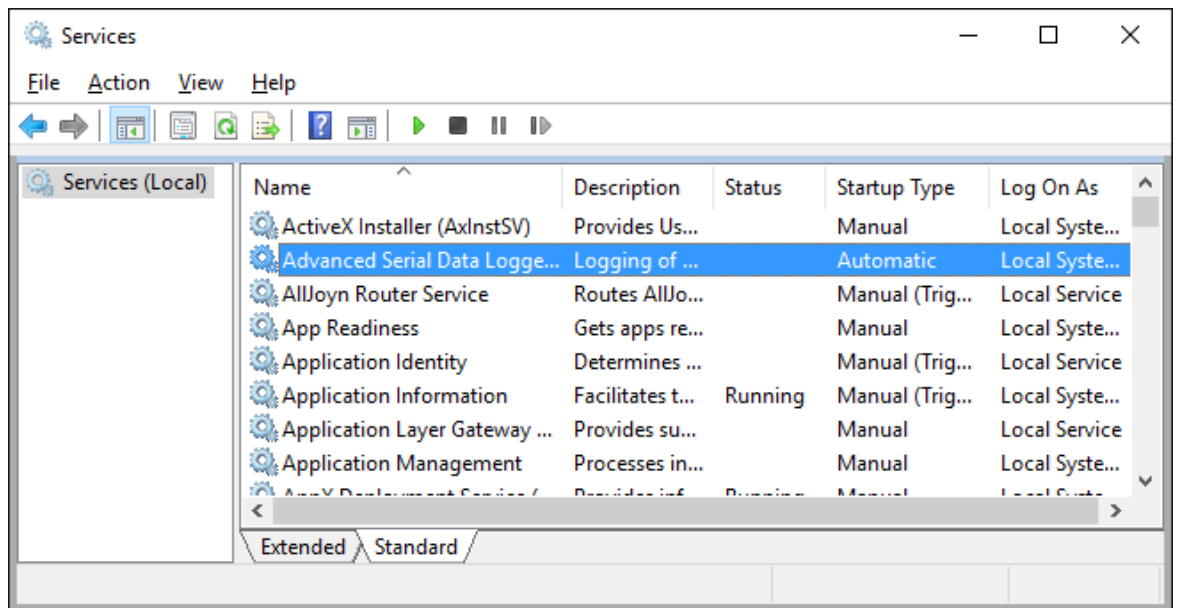

Fig. 28. Manual service run (in Windows 2000)
2. **Manual** - you can start the service application from the "Services" control panel (fig. 28).
After you configured Serial Printer Logger to work in the service mode, you need to restart a computer or start the service manually from the "Services" control panel (fig. 28).